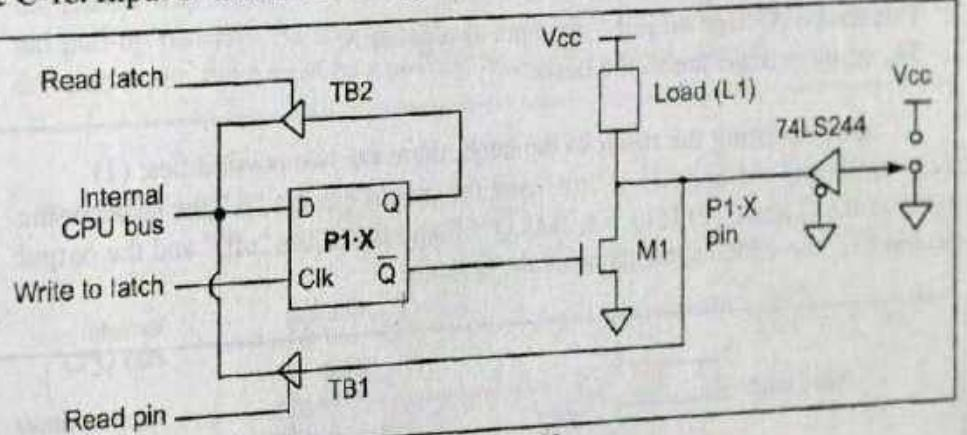

Figure C-16. Buffering Input Switch with Direct V_{CC}
3. Another way is to connect any input switch to a 74LS244 tri-state buffer before it is fed to the 8051 pin. This is shown in Figure C-16.